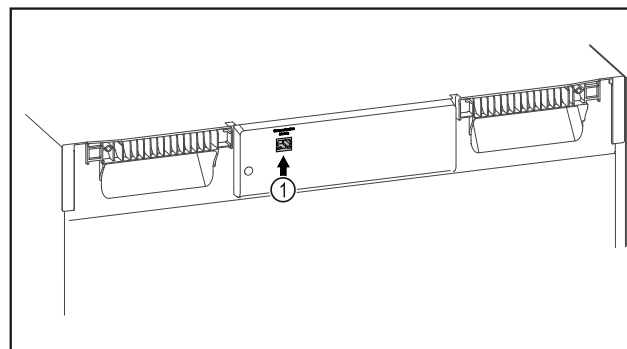

Fig. 89
- ☐ SmartModule Fig. 89 (1) is in use.